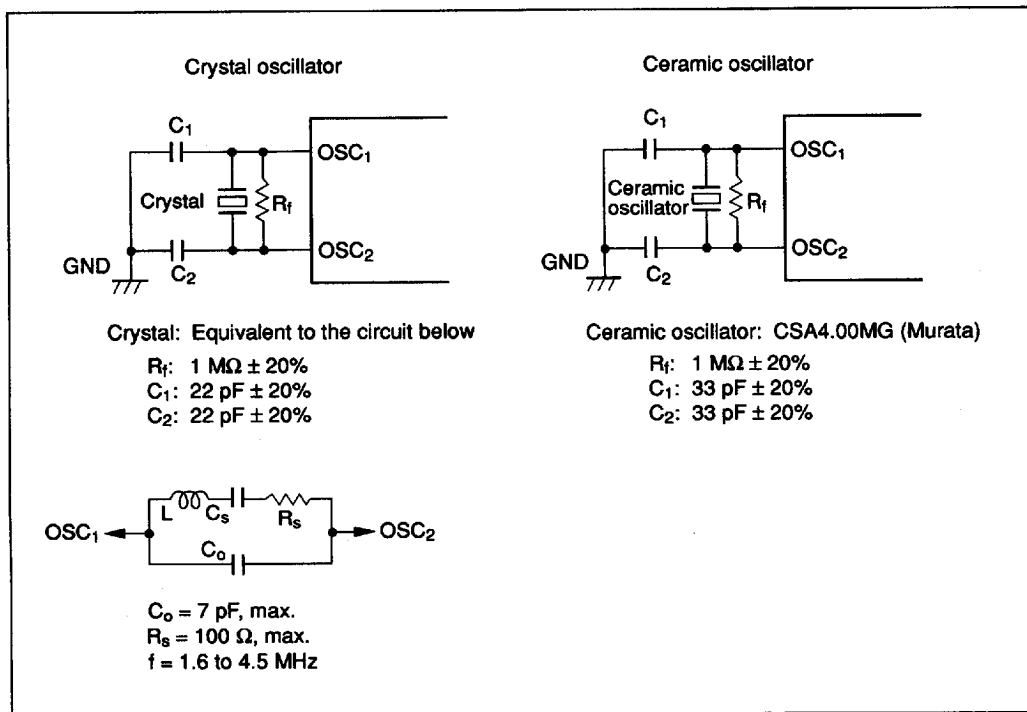

Figure 68 Oscillation Circuits (1)
- The oscillation stabilization time is the period required for the oscillator to stabilize after  $V_{CC}$  reaches 3.0 V (3.5 V if  $V_{CC} = 3.5 \text{ V to } 6.0 \text{ V}$  [applies to HD404710/HD404719],  $V_{CC} = 3.5 \text{ V to } 5.5 \text{ V}$  [applies to HD4074710/HD4074719]) at power-on or after RESET input goes high after stop mode in cancelled (figure 68).